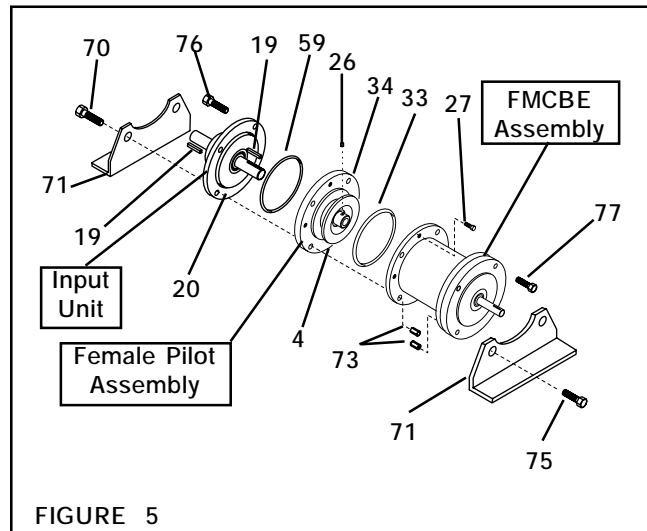

FIGURE 5
1. Coat the O-ring Seal (Item 59) and the seal contact surface of the Input Unit with a film of O-ring lubricant; then, wipe off any excess lubricant (See Figure 5).
2. Place the O-ring Seal (Item 59) into the seal groove of the Input Unit Bearing Flange (Item 20) (See Figure 5).
3. Slide the Female Pilot Assembly onto the Input Unit shaft (See Figure 5).
4. Tighten the Set Screw (Item 26) to lock the Drive Disc (Item 4) onto the Input Unit shaft (See Figure 5).
5. Coat the O-ring Seal (Item 33) and the seal contact surface with a film of O-ring lubricant; then, wipe off any excess lubricant (See Figure 5).
6. Place the O-ring Seal (Item 33) onto the seal diameter of the Female Pilot (Item 34) (See Figure 5).
7. Slide the FMCBE Assembly onto the Female Pilot Assembly (See Figure 5).
8. Using eight 10-24 x 0.750" Hex. Head Caps Screws (Item 27), secure the FMCBE Assembly to the Female Pilot Assembly (See Figure 5).
9. Alternately and evenly tighten the eight Hex. Head Cap Screws (Item 27) to 21 In. Lbs. [2.3 N•m] torque (See Figure 5).
10. Using two Nexen supplied 0.375-16 x 1.875" Hex. Head Cap Screws (Item 70) and Acorn Nuts (Item 73), secure one optional Mounting Foot (Item 71) to the FMCBE Assembly and Input Unit (See Figure 5).
13. Using two Nexen supplied 0.375-16 x 1.250" Hex. Head Cap Screws (Item 75) and Acorn Nuts (Item 73), secure the other optional Mounting Foot to the Male Pilot end of the FMCBE Assembly (See Figure 5).